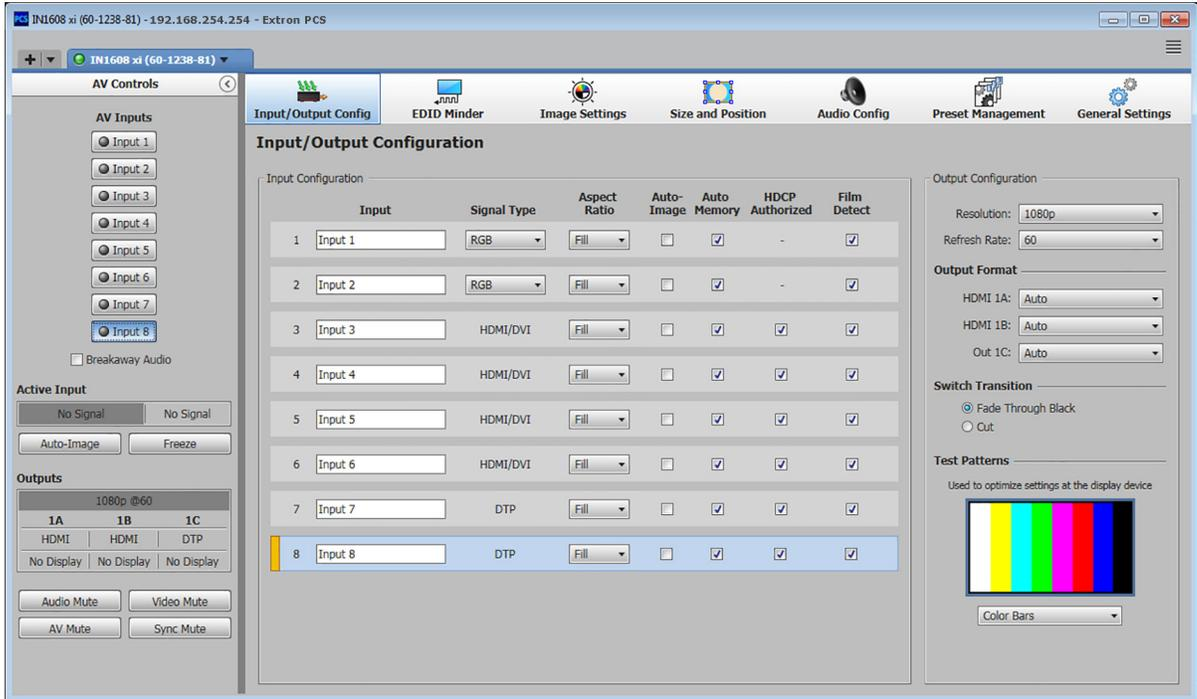

Figure 44. Online Device Tab
2. Select the desired device model from the Device Models list (see figure 44, ❶). In figure 44, **IN1608 xi MA 70** was selected.
3. Click the **Configure** button (❷). A new offline device configuration tab opens.